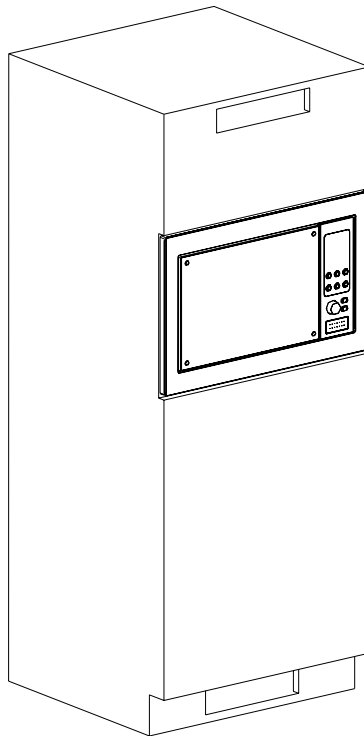

Fig.5
e) Final assembly as shown in Fig.5.